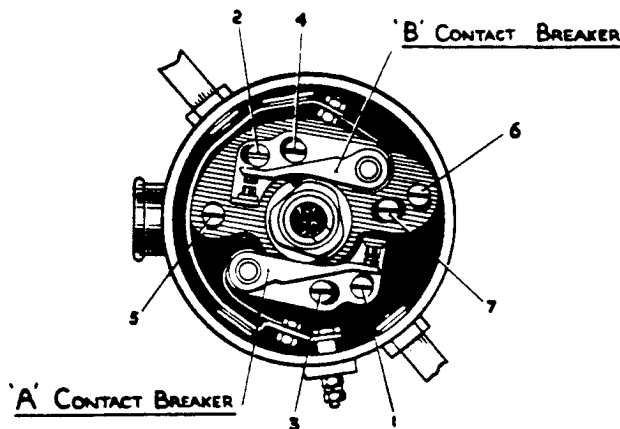

FIG. 1. PLAN VIEW OF DISTRIBUTOR.
- (ii) Loosen the small bolt attaching the spring of 'A' Contact breaker, Fig.1, to its anchorage and remove the breaker arm complete with its fibre adjusting washer/s. Remove the locking screw 1, (Fig.1) and remove the contact plate. It is essential that each contact breaker arm, their respective fibre adjusting washer/s and contact plate should be kept together and refitted to the same side of the distributor from which they were removed. Carry out the same procedure for 'B' contact breaker - removing the locking screw 2.